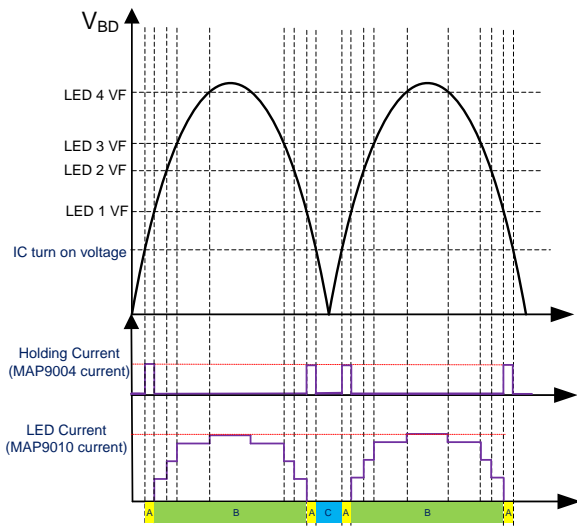

Figure15. Bleeder circuit operation
In Traic-dimming mode, The CDIM capacitor and RDIM resistance is fixed.(R5, C3 in Fig15)
1. Capacitor (C3, Fig15)
2. Resistor (R5, Fig15)